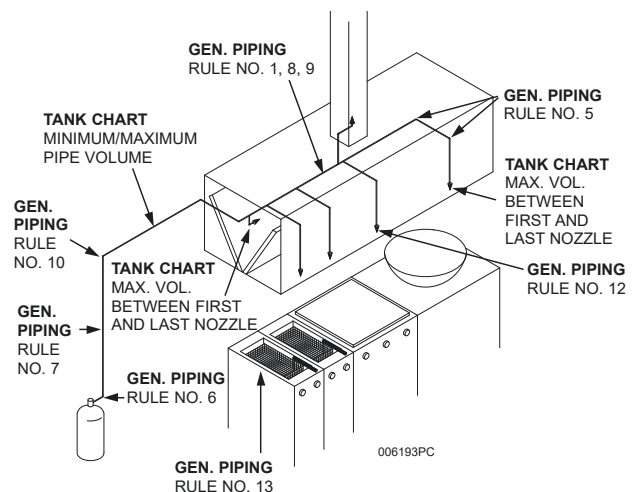

Figure 3-22
- Step No. 5** Check to make certain minimum volumes and maximum volume allowed between first nozzle and last nozzle are not exceeded (Tank Chart). Check each rule in "General Piping Requirements" to make certain none have been exceeded. If any requirement is exceeded, change to a different pipe size and recalculate. See **Figure 3-22**.